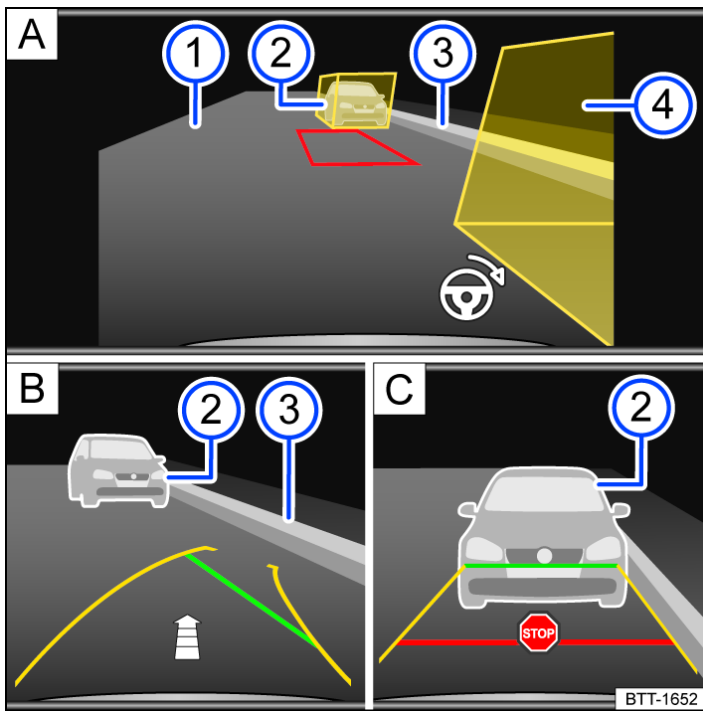

Fig. 2 Infotainment system: parking parallel to the road.
- ① Road.
- ② Obstacle or auxiliary box.
- ③ Side limit of the parking space.
- ④ Obstacle or auxiliary box.
- Position the vehicle parallel to the parking row at a distance of around one metre. The yellow auxiliary boxes must cover the obstacles → Fig. 2 [A] ② and ④. The area in between must be free of obstacles.
- Select reverse gear. A red frame shows the target position of your vehicle → Fig. 2 [A].
- Turn the steering wheel until that the red frame moves between the auxiliary boxes and turns green → Fig. 2 [A]. Leave the steering wheel in this position while reversing.